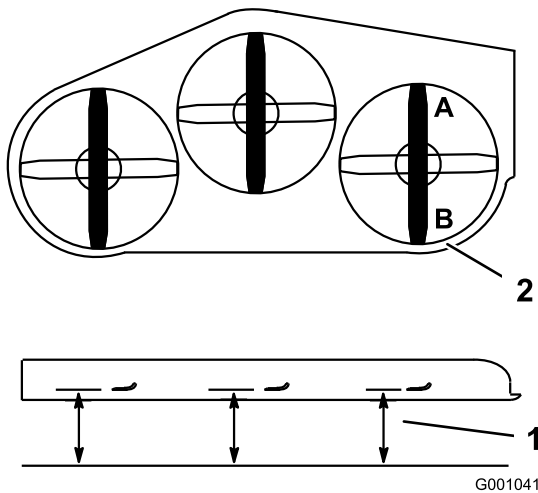

Figure 77
- Position the **right** blade front-to-rear (Figure 77).
- Measure the right blade at the **A** location, from a level surface to the cutting edge of the blade tip (Figure 77).
- Measure the right blade at the **B** location, from a level surface to the cutting edge of the blade tip (Figure 77).
- The mower blade should be a 1/4 to 3/8 inch (6 to 10 mm) lower at position **A** than at position **B** (Figure 77). If it is not correct, proceed to the following steps.